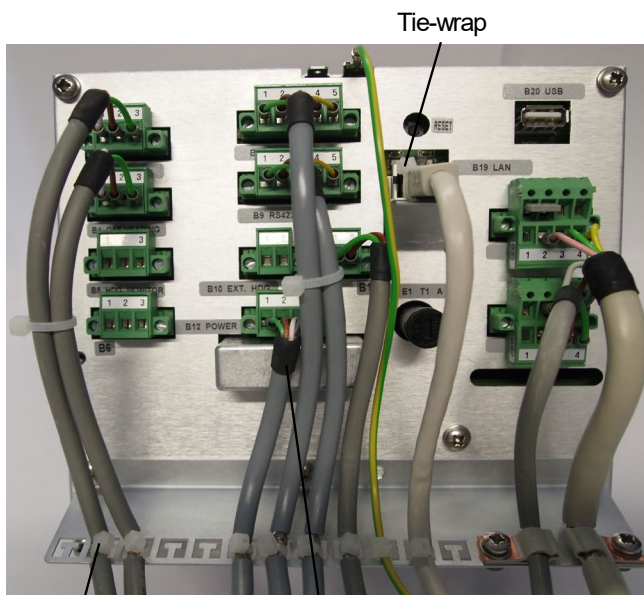

Figure 3-3 Example Cable Connection
- Use clamp to fix the cable at the casing, see Figure 3-3.